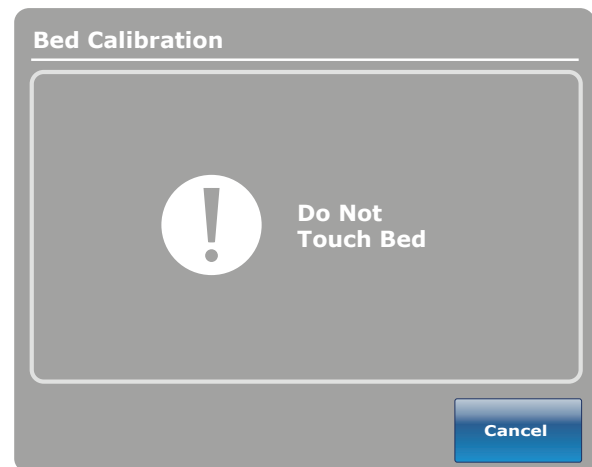

Figure 22: Do Not Touch Bed Screen
24. The "Do Not Touch Bed" screen will appear as shown in Figure 22.